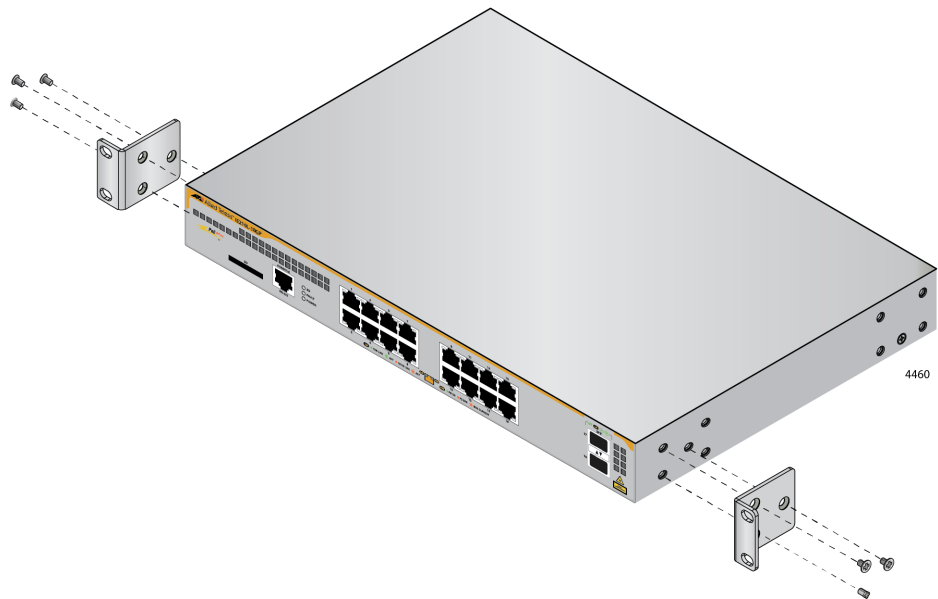

Figure 14. Attach Rack Mount Brackets to AT-IE210L-18GP Switch
1. Attach two rack mount brackets to the sides of the switch using eight bracket screws. Refer to Figure 14.